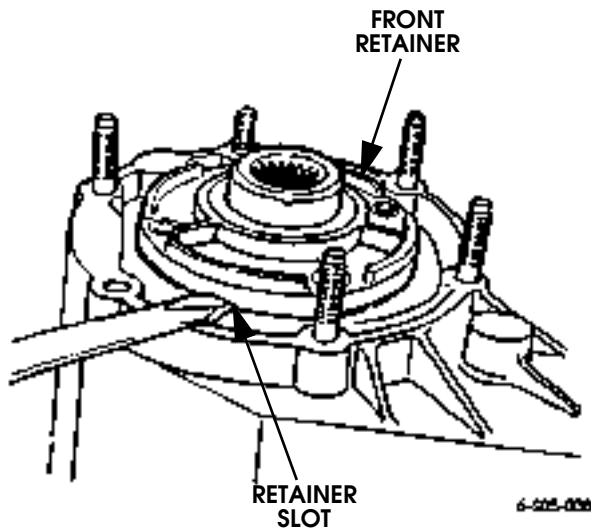

Figure 5-106: Front Retainer Removal
29. Remove bolts attaching front retainer to front case. Then remove retainer by prying it loose with screwdriver positioned in retainer slot (Figure 5-106).